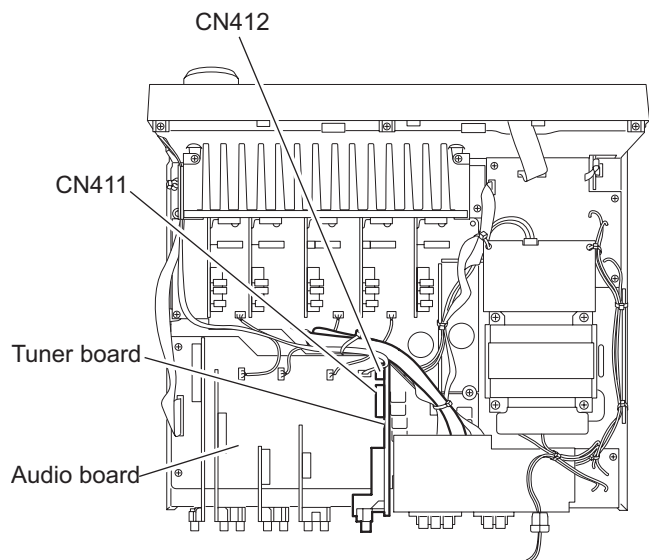

Fig.6
2.5 Removing the tuner board (See Fig.6)